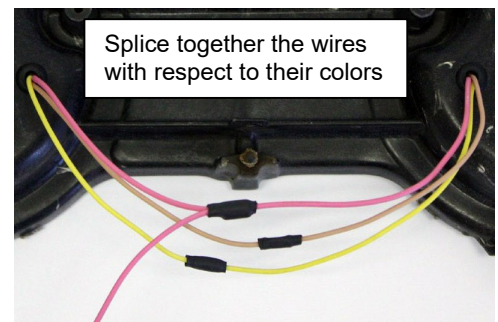

Figure 2
- 3.7. On each housing, bring each matching color wire together for splicing with moderate slack. Cut off excess wire length and strip off 3/16" insulation off each wire. Slide a piece of heat shrink tubing over all wires on the outboard wires. Using the butt splices provided, insert the one color wire into each side and crimp the wires together. Then slide the heat shrink tubing over splice and shrink into place with a heat gun or other suitable heat source. (See Figure 2)
NOTE FOR PINK WIRE SPLICE: The pink wire splice will require a pre-cut 6" pink wire length joining with the inboard panel's pink wire into the splice. When completed, the pink wire splice should resemble what is shown in Figure 2.